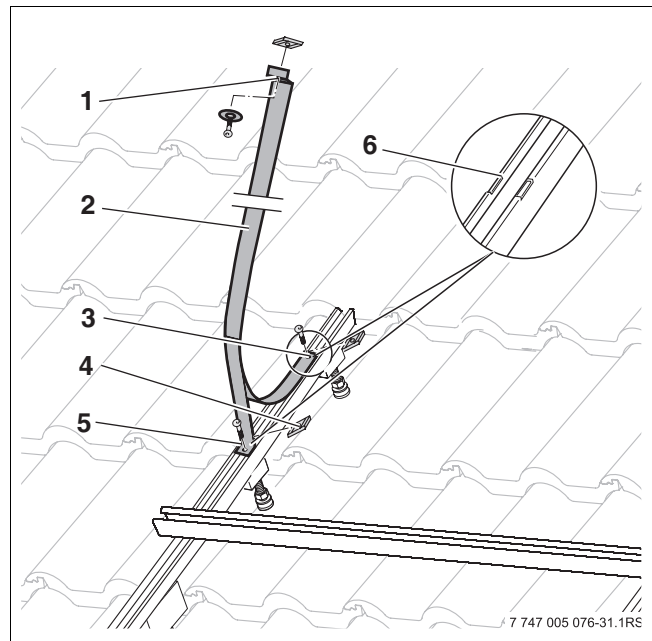

Fig. 32 Securing cylinder strap
- Insert screw into the front end of cylinder strap (Fig. 32, [3]) and loosely attach locking bolt [4] until a little resistance can be felt.
- Insert screw into cylinder strap support bracket (Fig. 32, [5]) and loosely attach locking bolt until a little resistance can be felt.
- Position front end of cylinder strap (Fig. 32, [3]) in notch [6] and tighten screw.
- Position cylinder strap support bracket (Fig. 32, [5]) in the second notch and tighten screw.
- Fit screw, washer and locking bolt to end of cylinder strap (Fig. 32, [1]). Do not fasten this end yet!